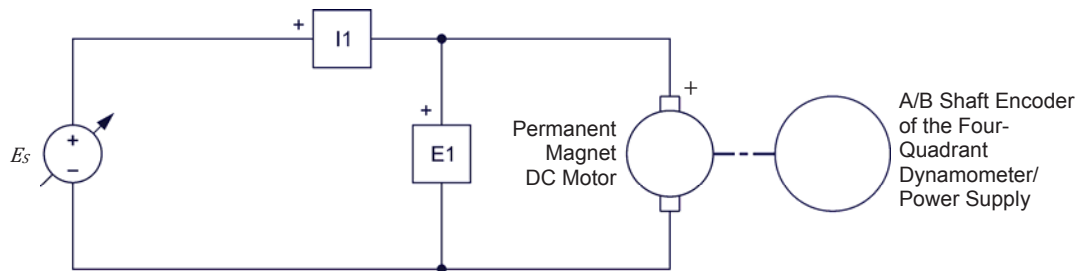

Figure 45. Setup used to plot the speed-versus-voltage characteristic of a permanent magnet dc motor operating as a motor.
6. Connect the equipment as shown in Figure 45. In this circuit,  $E_s$  is a positive dc voltage source implemented with the Four-Quadrant Dynamometer/Power Supply.  $E1$  and  $I1$  are voltage and current inputs of the Data Acquisition and Control Interface (DACI). The Permanent Magnet DC Motor is coupled to the Four-Quadrant Dynamometer/Power Supply with a timing belt to allow measurement of the motor rotation speed using the A/B shaft encoder in the Four-Quadrant Dynamometer/Power Supply.